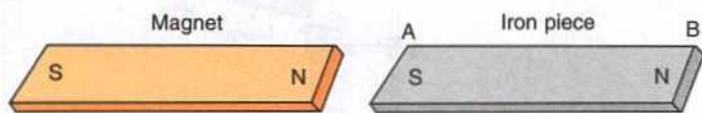

Fig. 6.12 Polarities produced by magnetic induction
When a magnet NS is placed near an iron piece AB, the iron piece behaves like a magnet and the end A of the iron piece near the north (N) pole of the magnet becomes a south (S) pole while the far end B becomes a north (N) pole as shown in Fig. 6.12